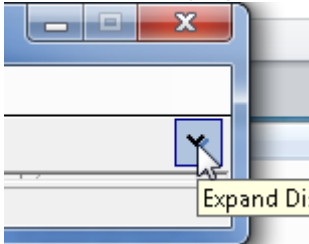

Figure 7. Expanding Display in VA
- If VisualAnalog opens with a collapsed view, click on the "Expand Display" icon (see figure 7)